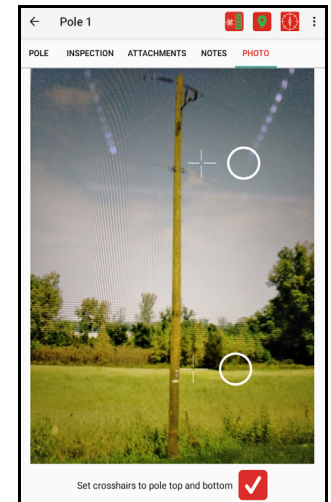

Figure 33
- Tap the  button to delete the image (Figure 33).